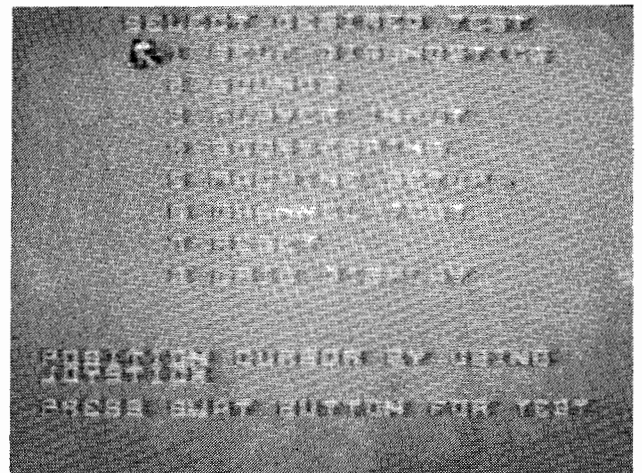

Figure 3-2 Self Test Mode
The Self-Test mode has eight (8) major categories as illustrated by Figure 3-2.